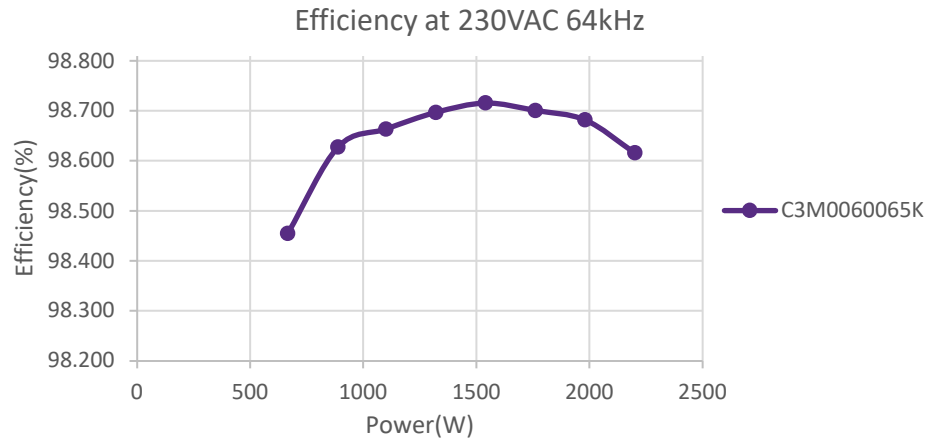

Figure 24: Efficiency data at 230 VAC, 64 kHz (TO-247-4 vision)
- H)** Observe the dead time between top and bottom PWM signals, which should be 270ns as shown in Figure 24.
- I)** Increase the input voltage to 230 VAC. If step (A) to step (H) are successfully completed then turn the main AC input power OFF. Solder back the gate resistors (R_{30} & R_3) into their original positions.